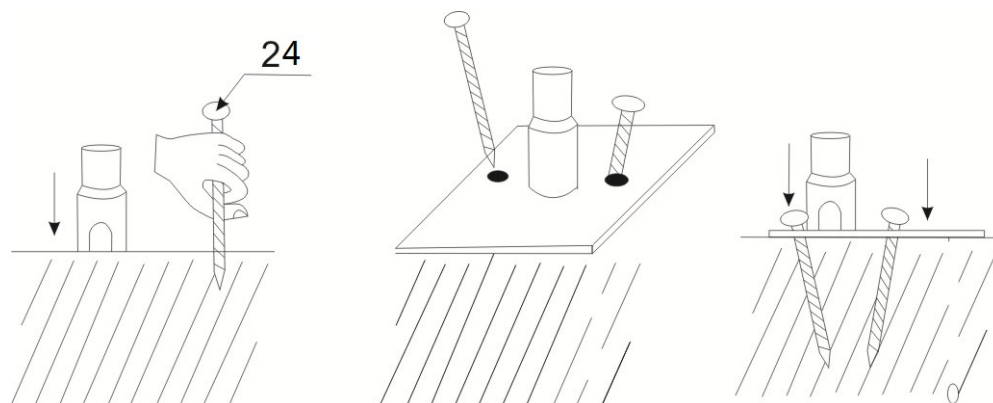

Figure 3
2. There are holes on the base plates for stake peg. Refer to Figure 3 to place the stake pegs into the ground, **THUS ALL BASE PLATES ARE SECURED.**
As Figure 3 shows each base plate for inner sidewall (No.10) is equipped with 2 pieces of Stake Peg (No.24). Each base plate for front and back door (No.9A, 9) is equipped with 3 pieces of stake peg.